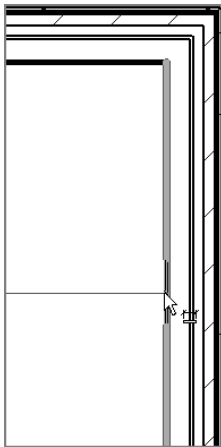

FIGURE 5.29: Press Tab to locate the inside face of the wall.
1. Hover your cursor over the inside face of the wall, and tap the Tab key until the inside face of the wall becomes highlighted, as shown in Figure 5.29.